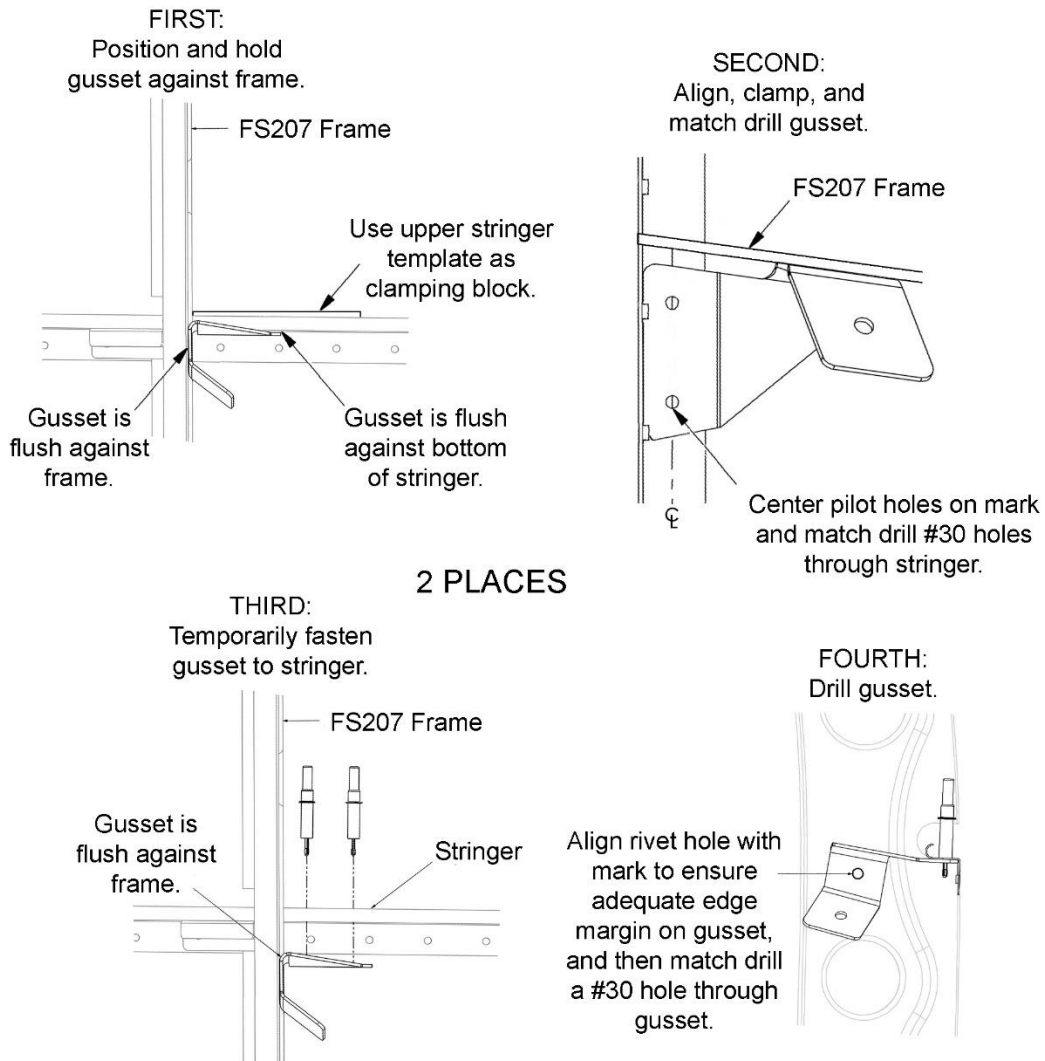

Figure 12: Temporarily Fastening Gussets to Stringers
22. Temporarily fasten gussets to stringers, as shown in Figure 12.